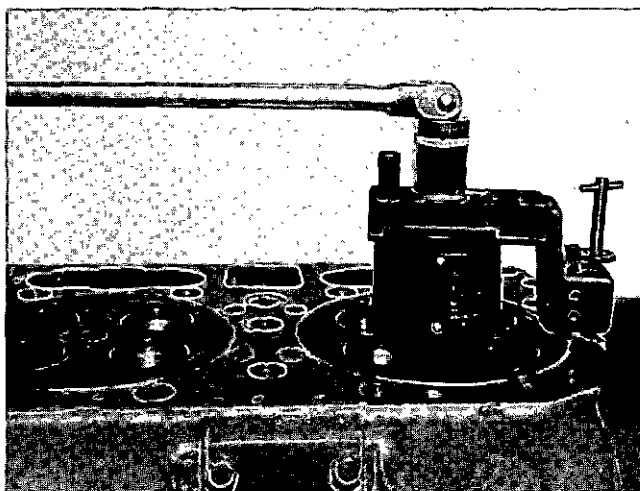

Fig. 2-1-14, V40223. Regroove cylinder head with ST-913
to cut grooves in the cylinder head over each cylinder liner sealing area. These grooves will assure a better seal between the cylinder head gasket and block during engine operation. Fig. 2-1-14. Use ST-597 or ST-913 Cylinder Head Grooving Tool to perform this operation.
- (1) Place housing, with tool holder secured in place, on a surface plate or similar flat surface.
- (2) Loosen setscrews holding tool adjusting screw and turn adjusting screw down until tool cutting bit touches surface plate.
- (3) Remove grooving tool from surface plate and turn adjusting screw down three notches, or 60 deg., to lower cutting tool bit approximately 0.006 inch [0.1524 mm].
- g. Rotate grooving tool clockwise to cut groove. The tool bit is spring loaded in the tool holder and will ride over any "hard" spots on the head surface. It may take two or three revolutions to get a smooth even cut in the head. Fig. 2-1-14.